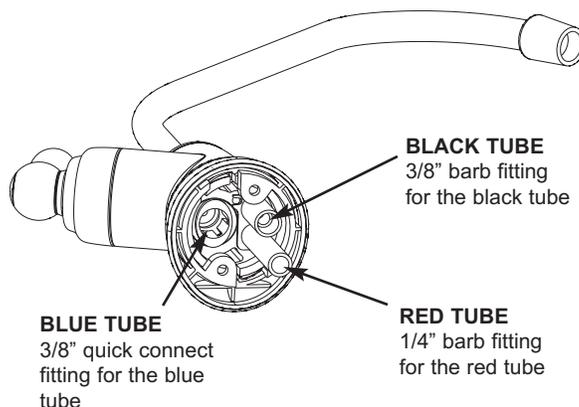

FIG. 15
- C. Insert all the way onto the 1/4" faucet barb fitting on faucet. See Fig. 15.